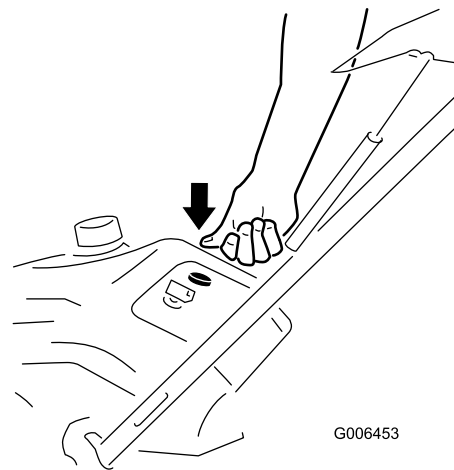

Figure 14
3. Firmly push in the primer 2 times with your thumb, holding the primer in for a second before releasing it each time (Figure 14).